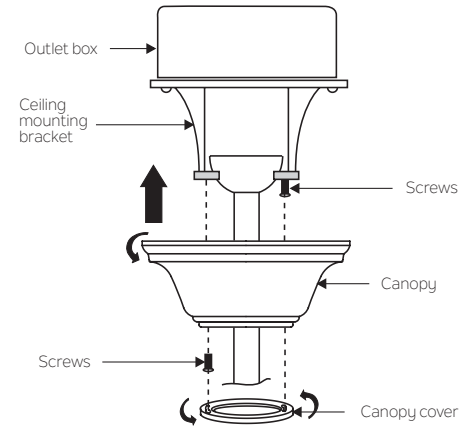

Fig. 13
Step 2. Slide the canopy up to the mounting bracket and place one of the key hole slots over the mounting screw on the mounting bracket. Rotate the canopy until the screw head locks in place at the narrow section of the key hole. See Figure 13.
NOTE: Adjust the canopy screws as necessary until the canopy and canopy cover are snug. (Fig. 13)